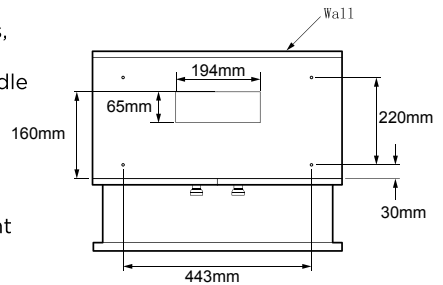

Fig. 3 Preparing for Install
- Fix the range hood to a shelf mounted at the right height in your wall units, by drilling 4 holes, 8 mm in diameter, (see Fig.3) and fixing with the 4 screws supplied.